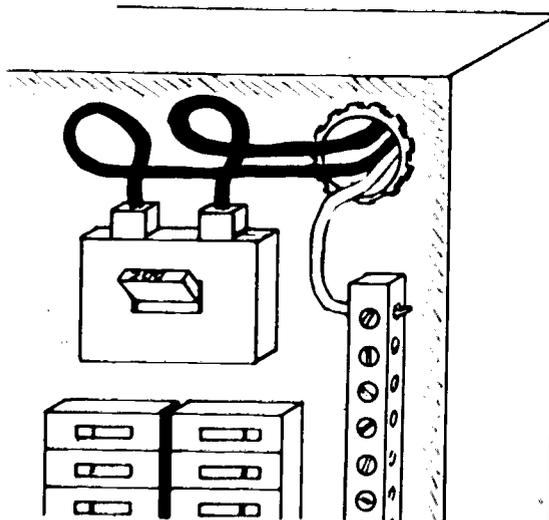

FIGURE 4.
- O. Cut off excess and connect to load center line lugs (Figure 4)